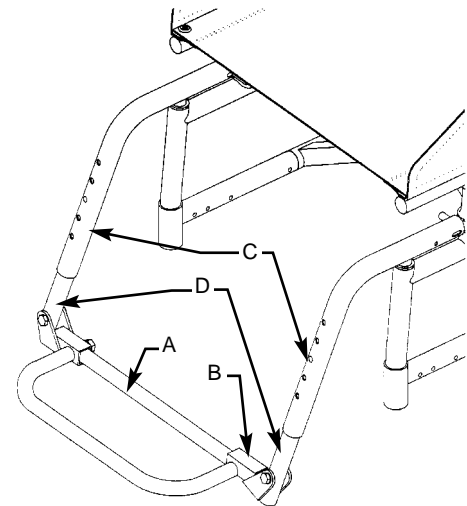

Figure 7
- 7 The Meteor footrest height is adjusted by releasing the footbar (A) from the retaining pin (B) and lifting it upwards. Each footrest hanger can be adjusted for length by pressing both spring studs (C) and sliding the inner stems (D) to the required length (see FIG 7).